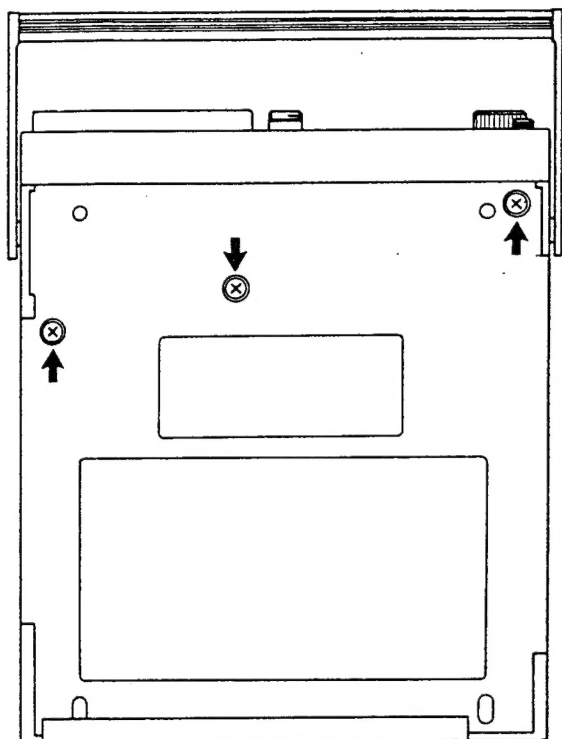

Figure 1
2. Remove three screws as indicated in Figure 1..